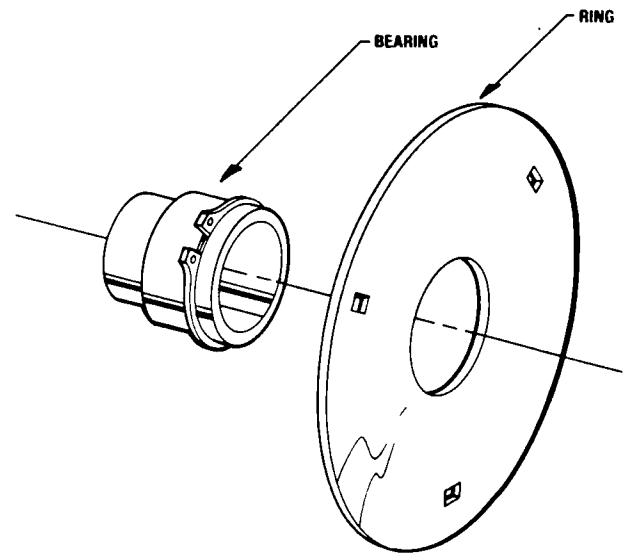

Figure 5-5
- 4) Insert bearing and retaining ring into ring. See Figure 5-5.